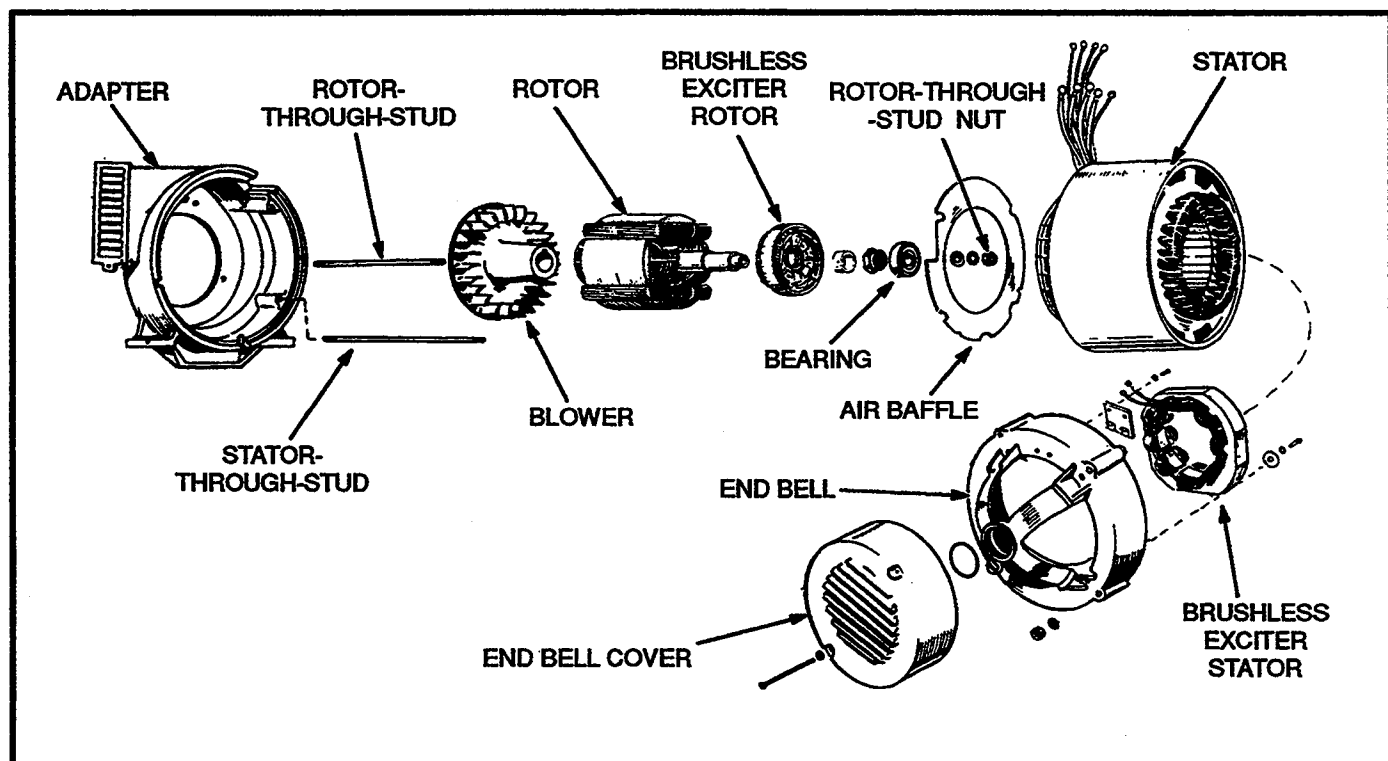

FIGURE 5-13. GENERATOR ASSEMBLY
7. Remove stator-through-stud nuts, end bell, and stator assembly (Figure 5-13). Screw-driver slots in adapter provide a means for prying stator loose from the adapter. Be careful not to let stator touch or drag on rotor.